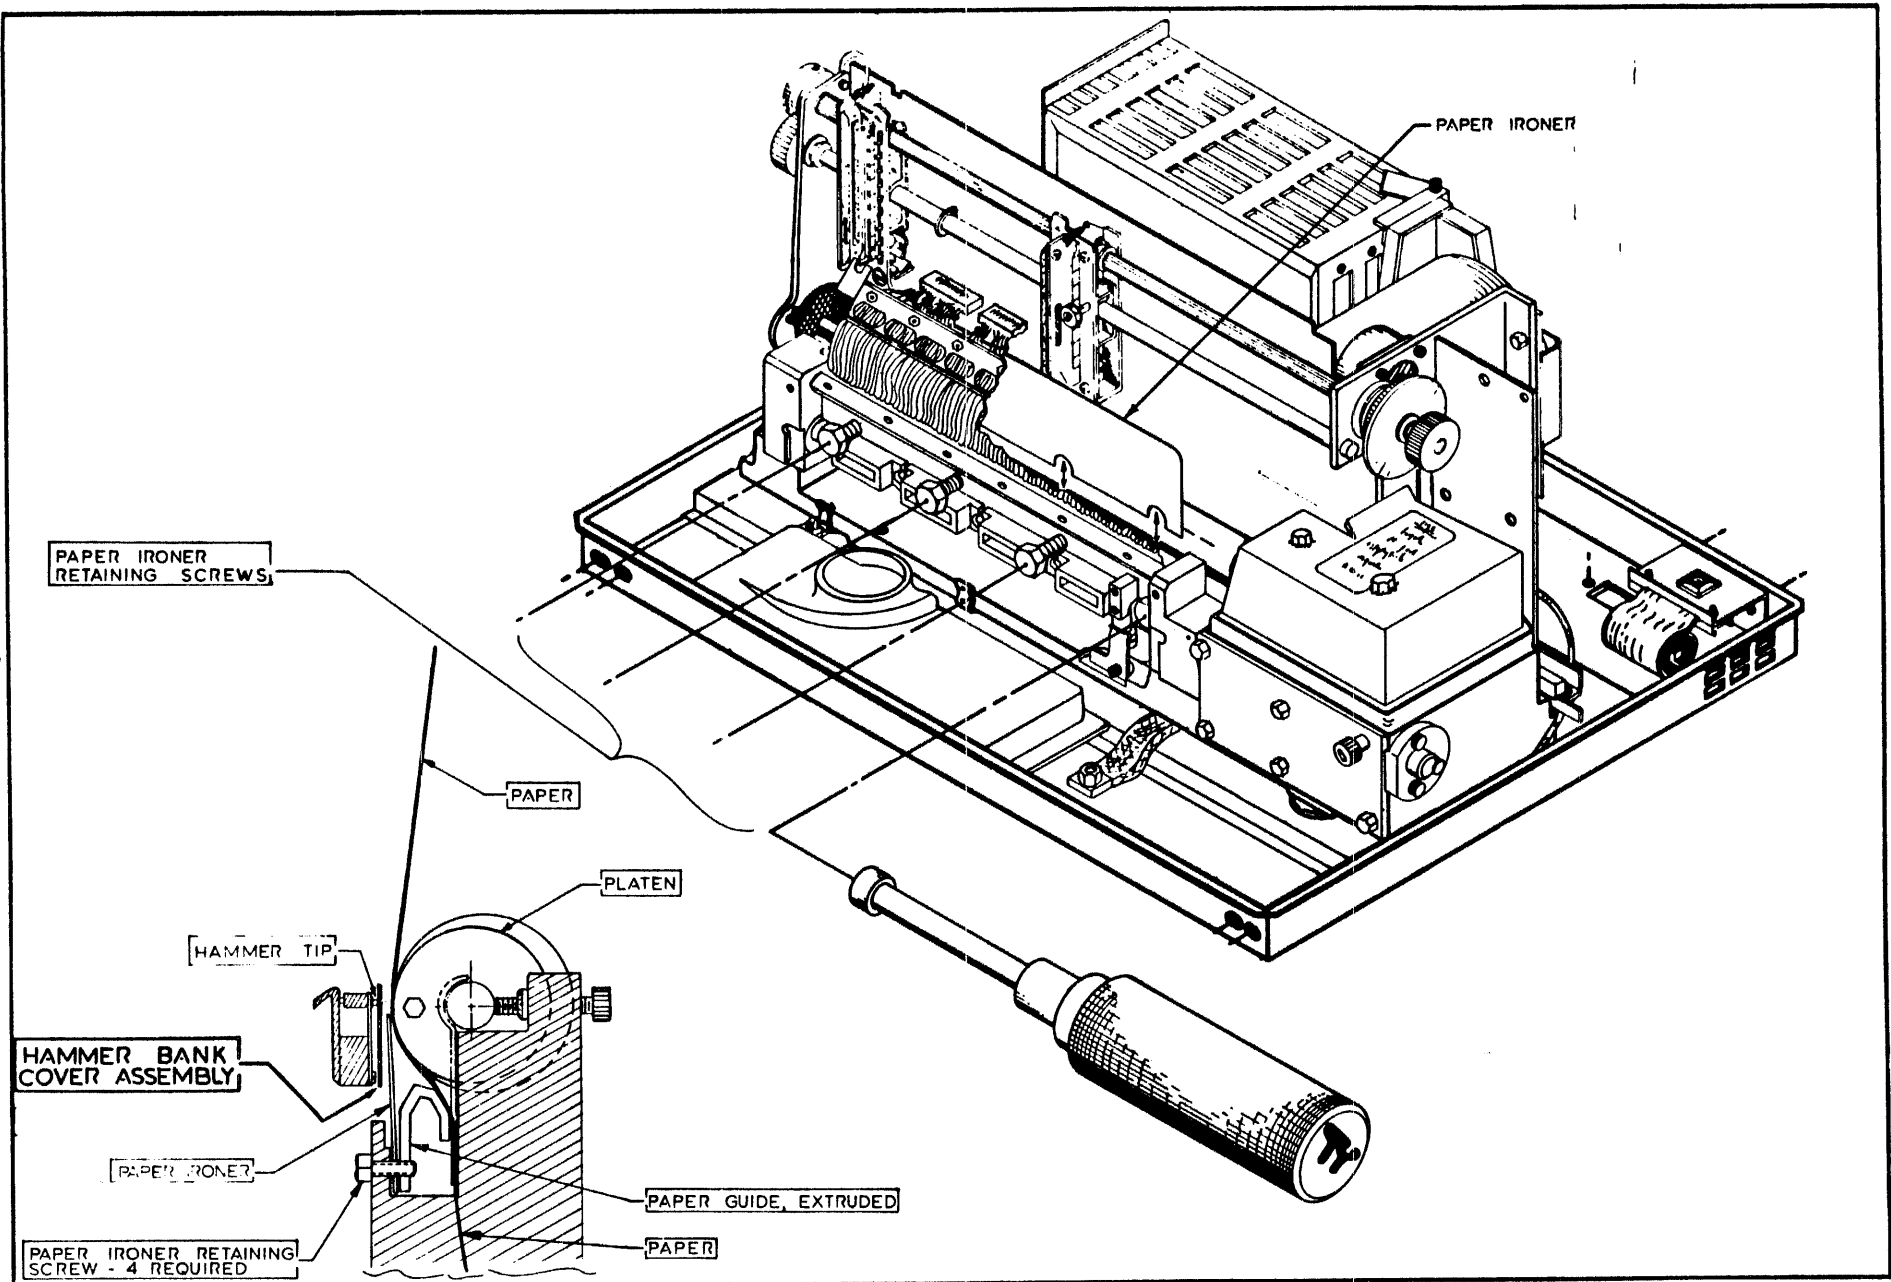

Figure 105 Paper Ironer Removal/Replacement
To remove and replace the Paper Ironer (**Figure 105**), proceed as follows:
- b. Loosen the comb retaining screws. Unplug the four coil wire connectors and lift them to expose four Paper Ironer retaining screws (**Figure 105**).